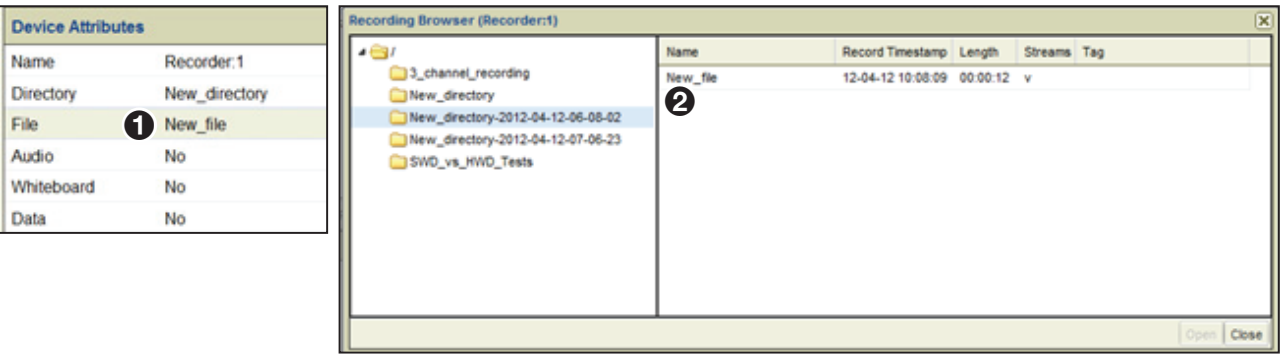

Figure 92. Create a File Using Direct Text Input
If a specific filename is desired, the name is entered in the **File** field (see figure 92, ❶), which then becomes the name of the file in the recording (❷).